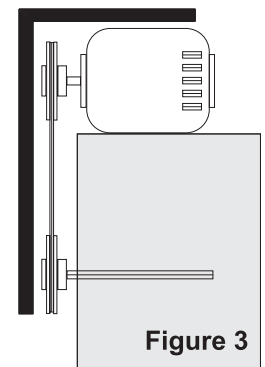

Figure 3
*Figure 2* indicates where to measure the allowable gap for the drive alignment tolerance. All contact points (indicated by WXYZ) are to have a gap less than the tolerance shown in the table. When the pulleys are not the same width, the allowable gap must be adjusted by half of the difference in width. *Figure 3* illustrates using a carpenter's square to adjust the position of the motor pulley until the belt *Figure 3* is parallel to the longer leg of the square.